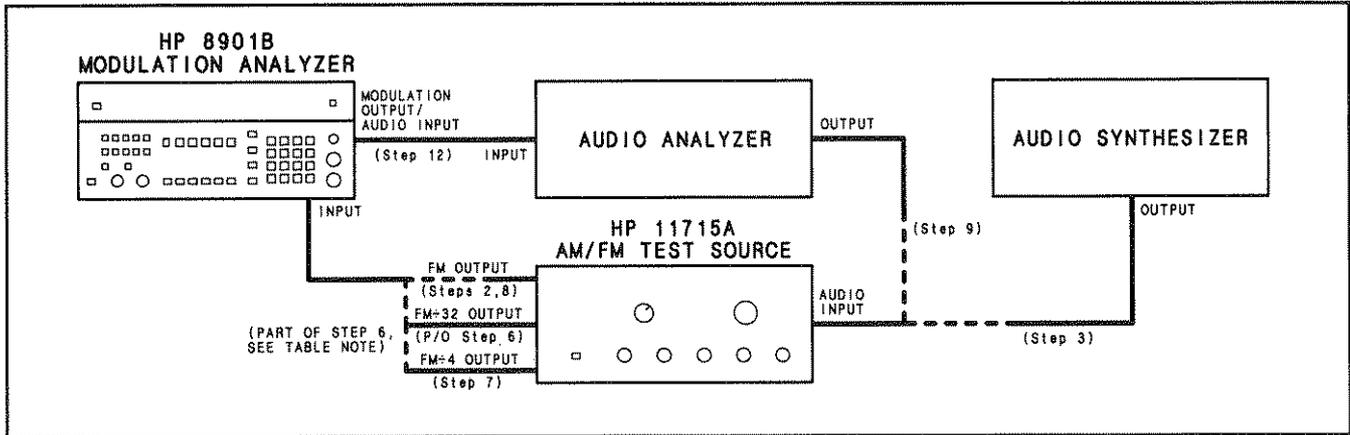

Figure 4-3. FM Performance Test Setup
2. On the AM/FM test source, set the test mode to FM. Connect its FM output to the Modulation Analyzer's INPUT. (See Figure 4-3.)
3. Set the audio synthesizer to 200 Hz at -10 dBm. Connect its output to the audio input of the AM/FM test source. (See Figure 4-3.)
* Connect the FM÷32 output of the AM/FM test source to the Modulation Analyzer's INPUT to make this measurement. (See Figure 4-3.) Press AUTOMATIC OPERATION, then MHz to retune the Measuring Receiver. If the resolution is not 0.001 rad, press Φ M again.
7. On the Modulation Analyzer, key in 3.1 SPCL to set the IF to 455 kHz. Press FM. On the AM/FM test source, connect the FM÷4 output. (See Figure 4-3.) Set the audio synthesizer frequency as shown in the following table. Set the Modulation Analyzer High Pass Filter as shown in the table. Set the audio synthesizer level to give the FM deviation shown in the table. After setting each FM deviation, press Φ M. For each setting, the Modulation Analyzer's display should read between the limits indicated in the table.
- Connect the FM output of the AM/FM test source to the Measuring Receiver's INPUT. (See Figure 4-3.) Press AUTOMATIC OPERATION on the Modulation Analyzer.
- Set the audio analyzer's oscillator to 1 kHz. Connect its output to the audio input of the AM/FM test source. (See Figure 4-3.)
12. Connect the audio analyzer's input to the Modulation Analyzer's MODULATION OUTPUT/AUDIO INPUT. (See Figure 4-3.) Set the audio analyzer to measure the distortion on the 1 kHz signal at the MODULATION OUTPUT/AUDIO INPUT. Set the high-pass filter on the audio analyzer to 400 Hz. The distortion should be 0.1% (-60 dB) or less.